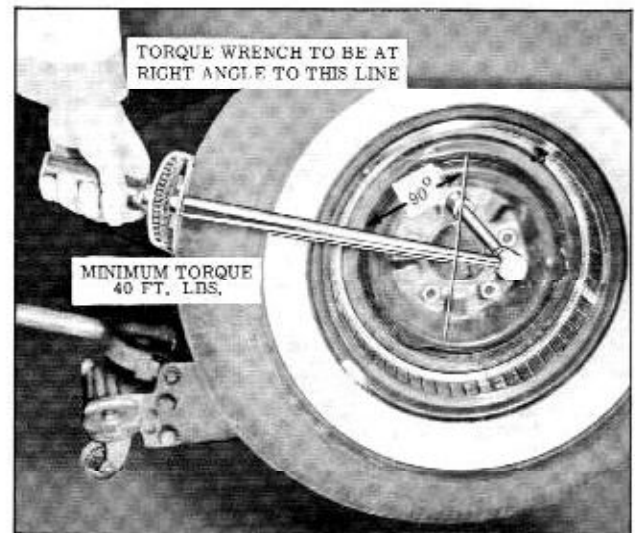

Fig. 6-46 Checking Anti-Spin
3. Remove hub cap or wheel disc and apply a torque wrench as shown in Fig. 6-46.